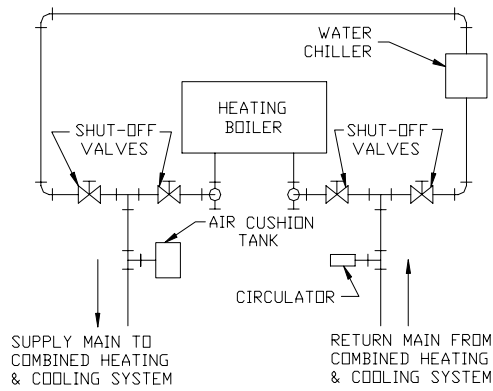

Figure 4: Recommended Piping for Combination Heating & Cooling (Refrigeration) Systems
- B. Install drain cock and safety relief valve as shown in Figure 4. Note - Safety relief valve must be in vertical position.
entering the boiler, see Figure 4. Also consult I=B=R Installation and Piping Guides.